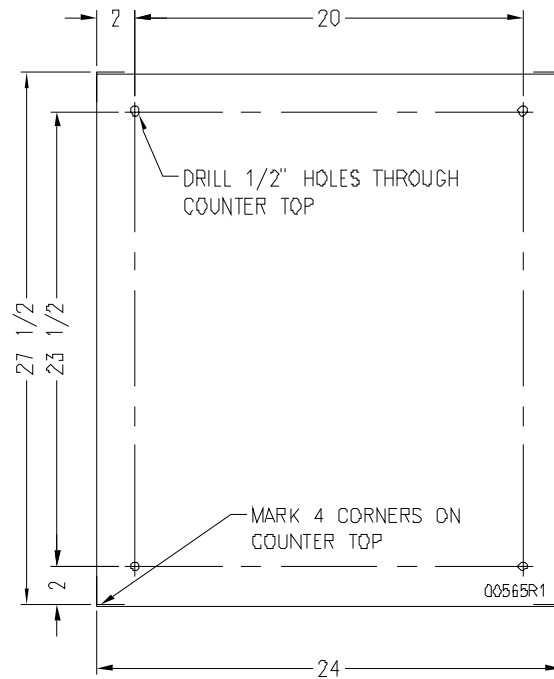

FIGURE 1
1. Place steamer in desired location with level counter top and mark four corners. Remove steamer and drill $\frac{1}{2}$ " holes as indicated in Figure 1.